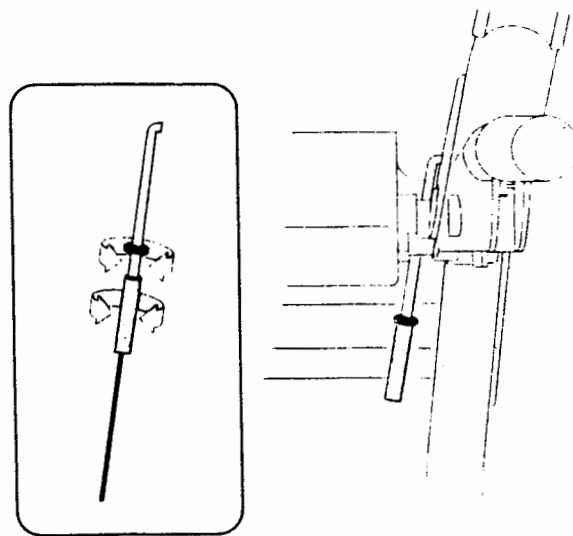

Figure 18
If any of the above tests failed, the drive cable is in need of adjustment. refer to Figure 18 and proceed as follows:
- Loosen the hex jam nut on the auger control cable "Z" fitting and rotate the coupling end (**without turning the cable**) of the cable downward to provide more slack or upward to take up slack. See Figure 18.
NOTE: Some models are equipped with reversible skid shoes and may be turned over to increase their lifespan. See Figure 18.